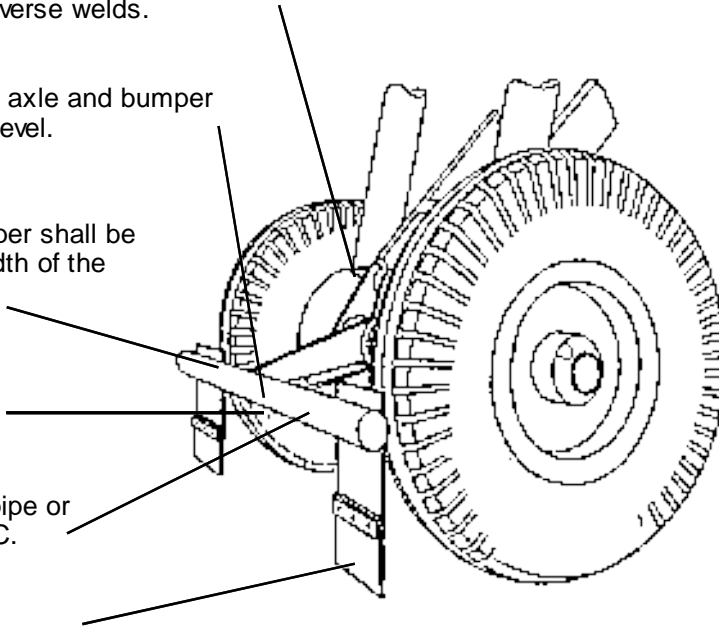

Figure 1 Fender for BHB Tractor Crane
- BHB tractor cranes shall be fitted with a safety fender (see Figure 1).